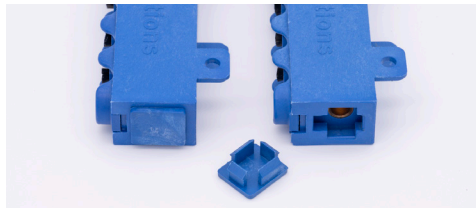

Figure 11A - Snap type
**Step 2** – Once the last iMOD section is added, push the end cap into the receiver end of the last iMOD section. It will “snap” into place with proper pressure. Refer to FIGURE 11A OR 11B as appropriate.